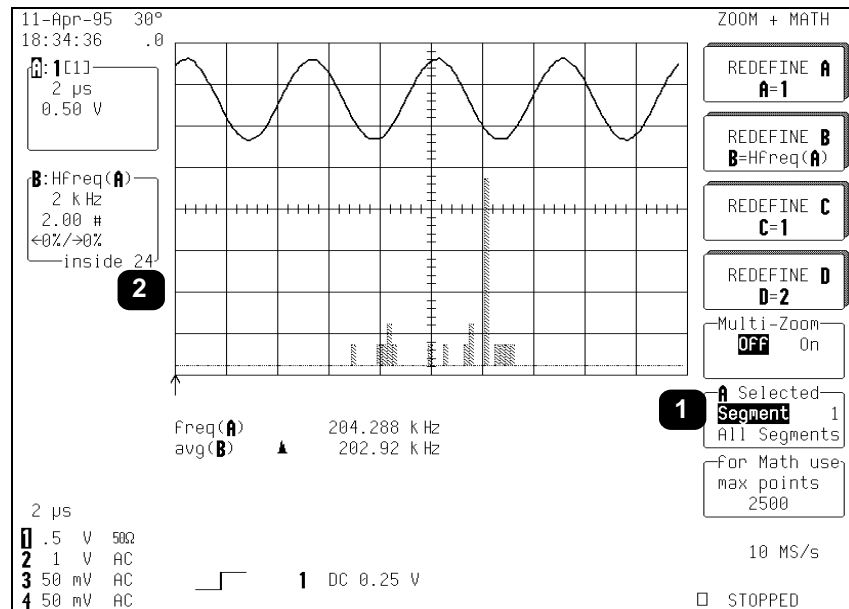

Figure 2.17
Figure 2.17 shows “Selected” a histogram of the frequency (“freq”) parameter for “Segment 1” (Annotation ①) of Trace “A”, which is a zoom of a 10-segment waveform on Channel 1.